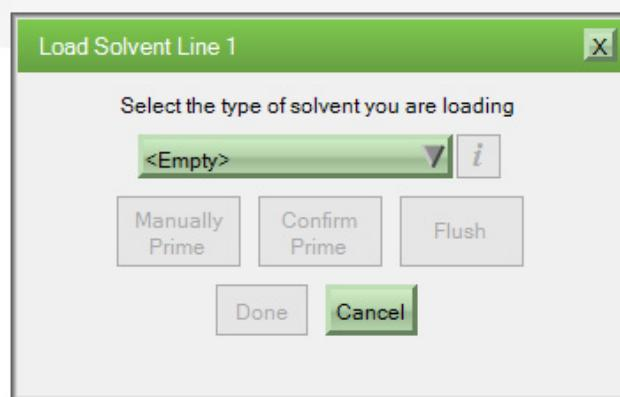

Figure 4-3: Load Solvent Line 1 Dialog Box
2. Press *Load* to present the *Load Solvent Line 1* dialog box (Figure 4-3).